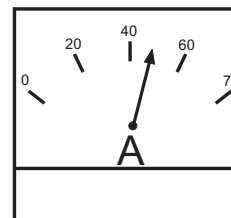

Figure 30. Ammeter (Load)
18. Observe the generator's ammeter (Figure 30) and verify it reads the anticipated amount of current with respect to the load. The ammeter will only display a current reading if the load is in use.